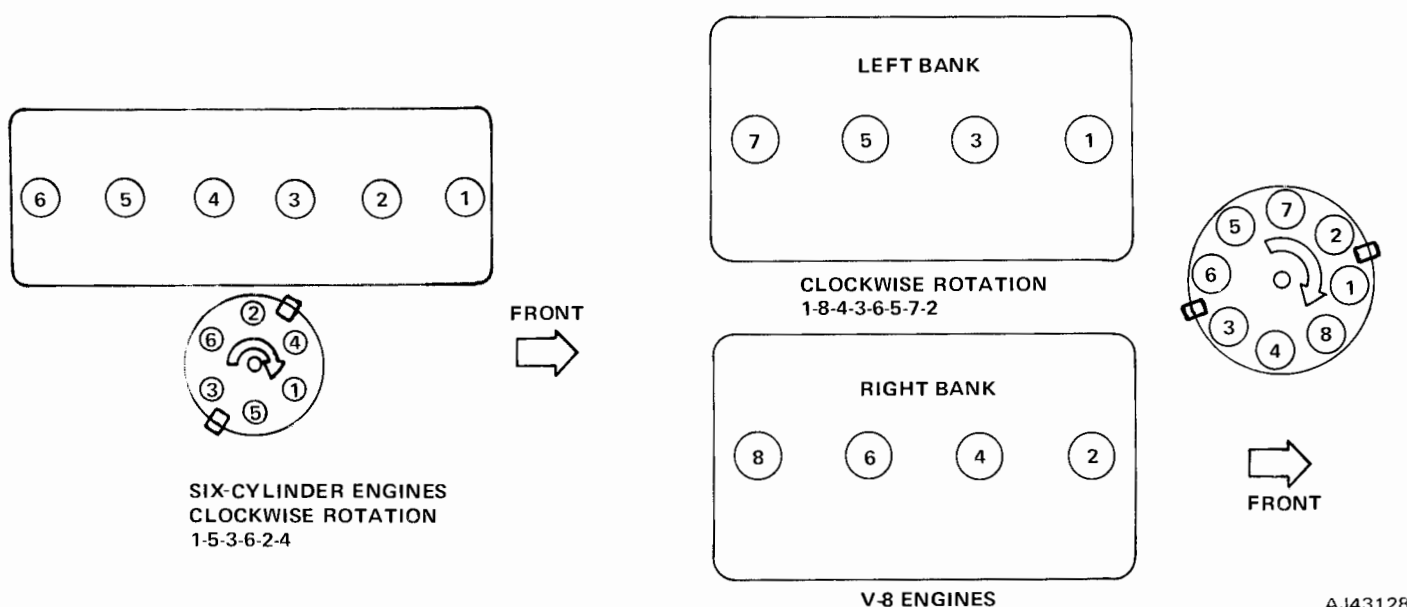

Fig. 3-62 Timing Mark Location and Firing Order
(4) If engine was cranked while distributor was removed, it will be necessary to re-establish timing as follows:
(a) Remove No. 1 spark plug. Hold finger over spark plug hole and rotate engine until compression pressure is felt. Slowly continue to rotate engine until timing mark on crankshaft pulley lines up with top dead center (0) mark on timing quadrant (fig. 3-62). Always rotate engine in direction of normal rotation. Do not back engine to align timing marks.